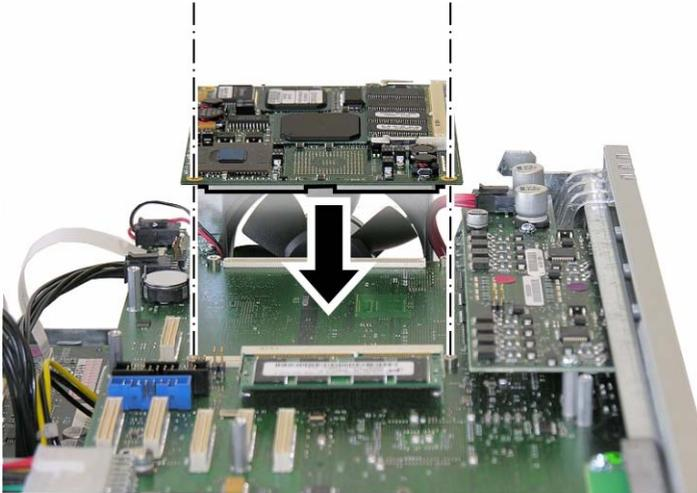

Figure 13: APC module on the main board - CXi
4. Place the APC on the main board connectors. The connectors are spaced irregularly to assist in alignment (see Figure 13).